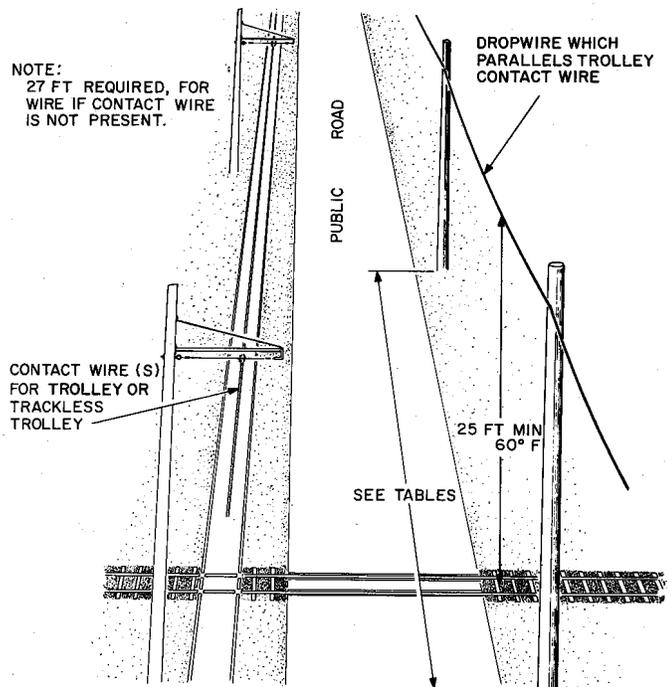

Fig. 2—Wire Crossing Railroad Tracks—Special Case
(2) **Special Case:** (Fig. 2) Clearance required when the drop wire parallels a contact wire used by a trolley or trackless trolley.